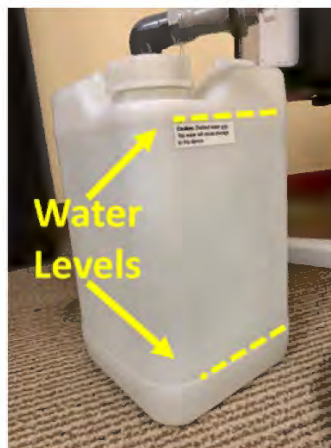

Figure 44: Water levels in the reservoir.
5. Add fresh distilled water up to the molded “line” at the bottom of the reservoir (see **Figure 44**) and stir thoroughly then discard the water. Repeat this process if particulates are found on the bottom of the reservoir or floating on/under water. Ensure the reservoir is fully clean.
6. Add contents of the one-time use bottle of disinfectant to the reservoir and approximately 2.5 gallons (9.5 liters) of fresh distilled water until water level is at the molded “line” at the top of reservoir (see **Figure 44**)
11. Keep checking both top and bottom water levels in the reservoir during Fill/Drain cycles. Levels are at the molded “line” at the top and bottom of reservoir. For optimal performance, make sure water levels are always at the marks as shown in **Figure 44** while filling or draining. **Stop** the cycle in order to add more water if needed.
19. Fill the reservoir with fresh distilled water until water level is at the molded "line" at the top of reservoir (see **Figure 44**).
27. Top the water level up, if needed. Make sure it lines up with the molded "line" at the top of the reservoir (**Figure 44**).